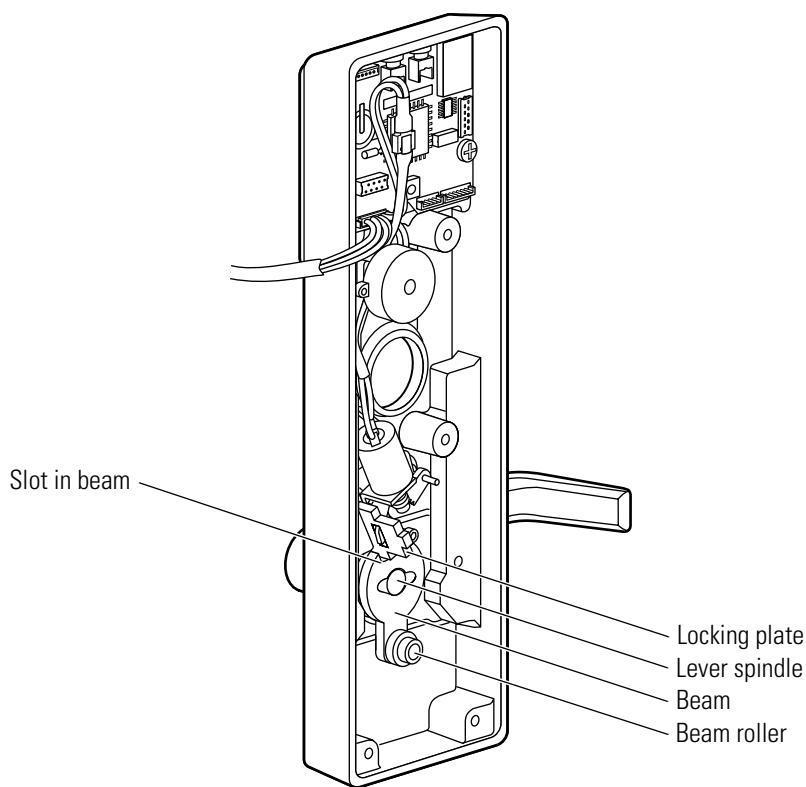

Figure 10.14 Removing and reinstalling the beam and beam roller
3. Remove the beam and beam roller from the lever spindle. See Figure 10.14.
1. Place the beam on the lever spindle so that the slot in the beam aligns with the locking plate. See Figure 10.14.